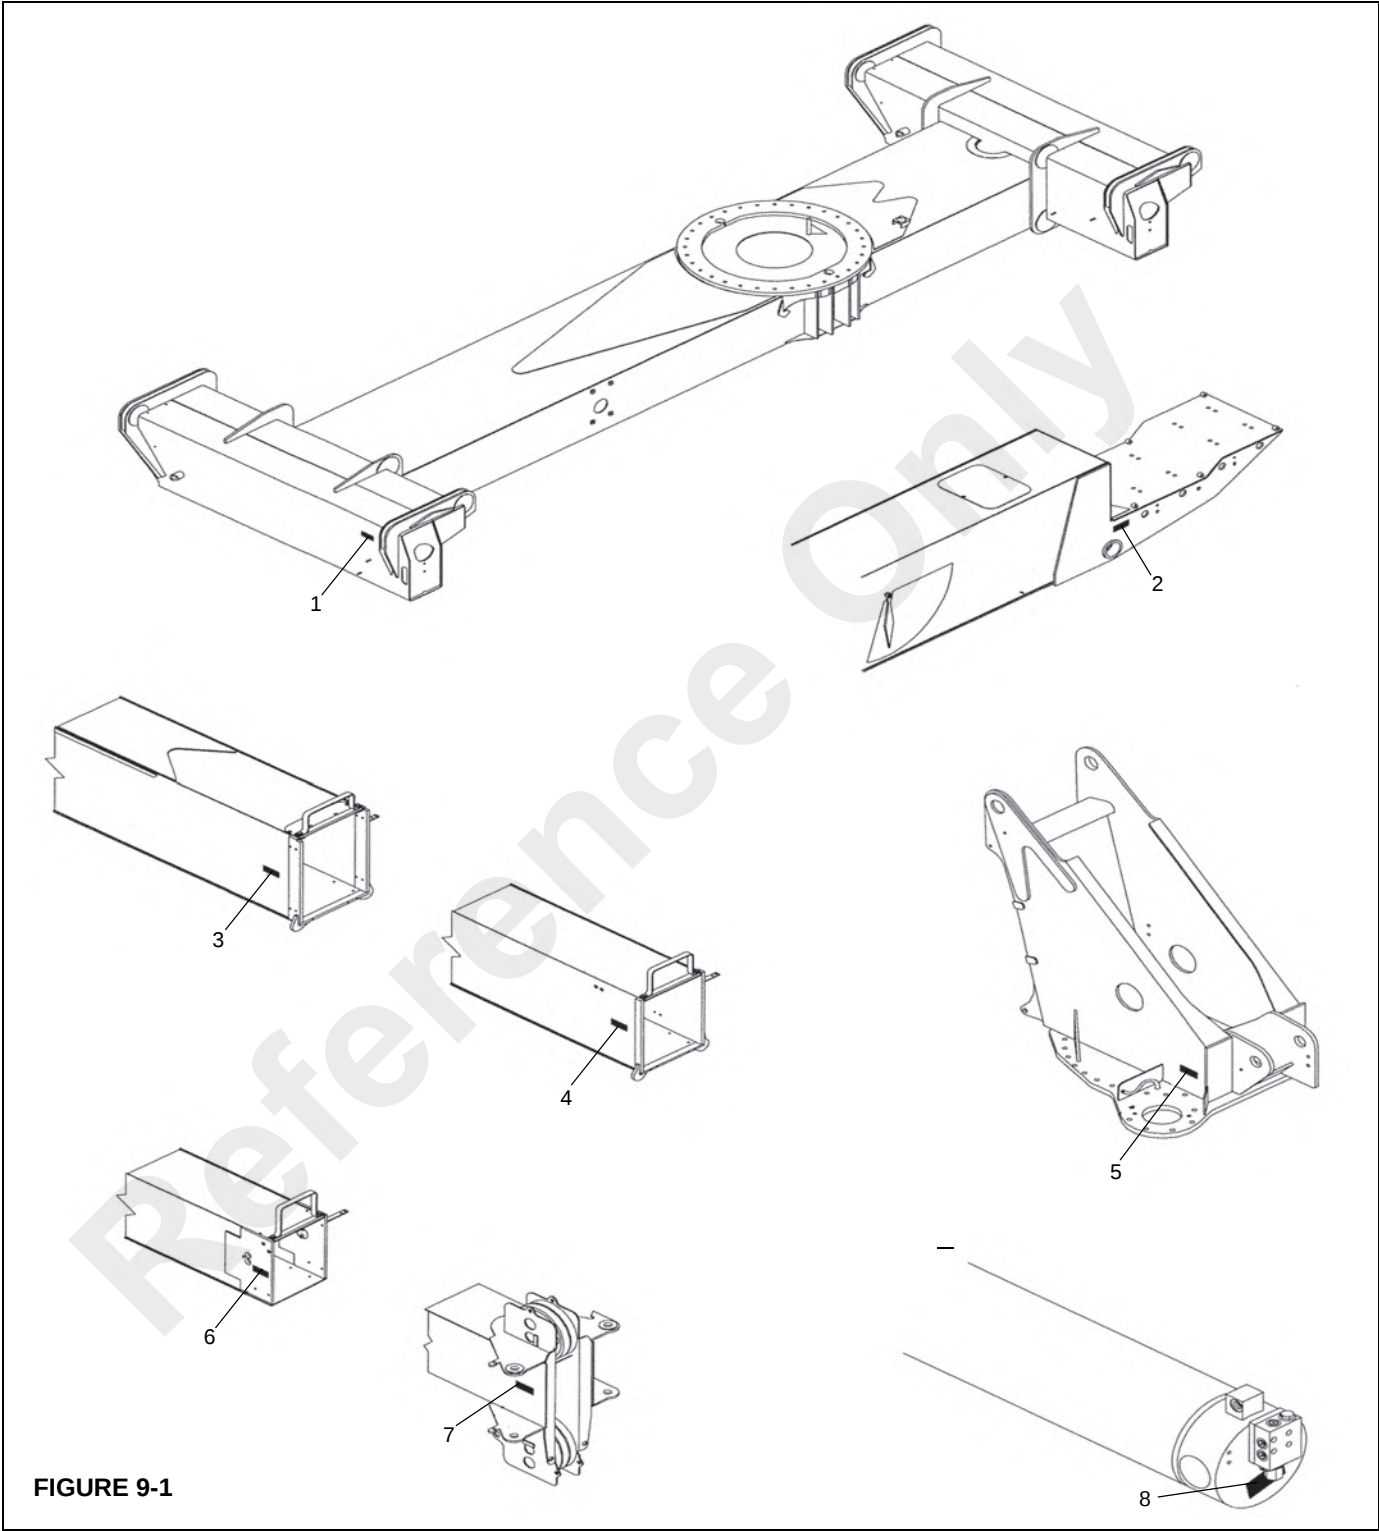

FIGURE 9-1
4. **Truck Frame.** Try to select a truck frame that will minimize or eliminate frame reinforcement or extension of the after frame (AF). Many frames are available that have the necessary after frame (AF) section modulus (S.M.) and resistance to bending moment (RBM) so that reinforcing is not required. The front hydraulic jack is used for a 360° working range around the truck. The frame under the cab through the front suspension must have the minimum S.M. and RBM because reinforcing through the front suspension is often difficult because of engine, radiator mounts and steering mechanics. See "Truck Requirements" and "Frame Strength" pages for the necessary section modulus and resistance to bending moment values.
7. **Serial Number Identification** - Figure 9-1 shows the typical locations for the Serial Number identification tags that are fastened to the main components of the crane.